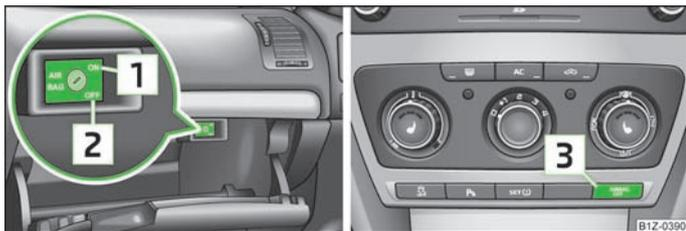

Fig. 123 Storage compartment: Switch for the front passenger airbag/indicator light for the deactivated front seat passenger airbag
- The deactivated airbag is indicated by the illumination of the indicator light **AIRBAG OFF** in the middle of the dash panel » Fig. 123 **3**.
- Use the key to turn the slot of the key switch into the position **2** (OFF) » Fig. 123.
- Use the key to turn the slot of the key switch into the position **1** (ON) » Fig. 123.
The airbag indicator light is located in the middle of the dash panel » Fig. 123 **3**.